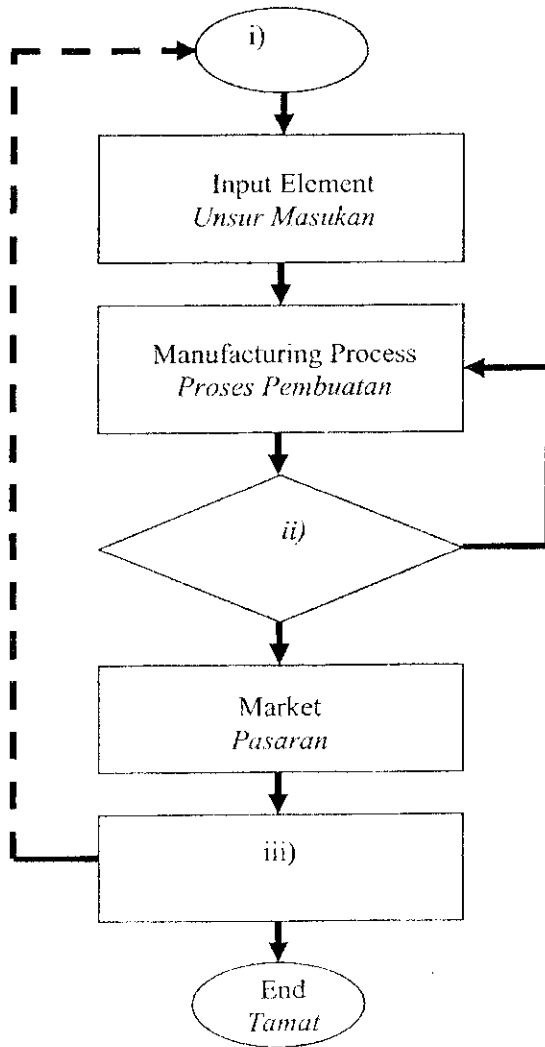

Figure 1
3. Complete a flowchart of a simple manufacturing system in the Figure 1.